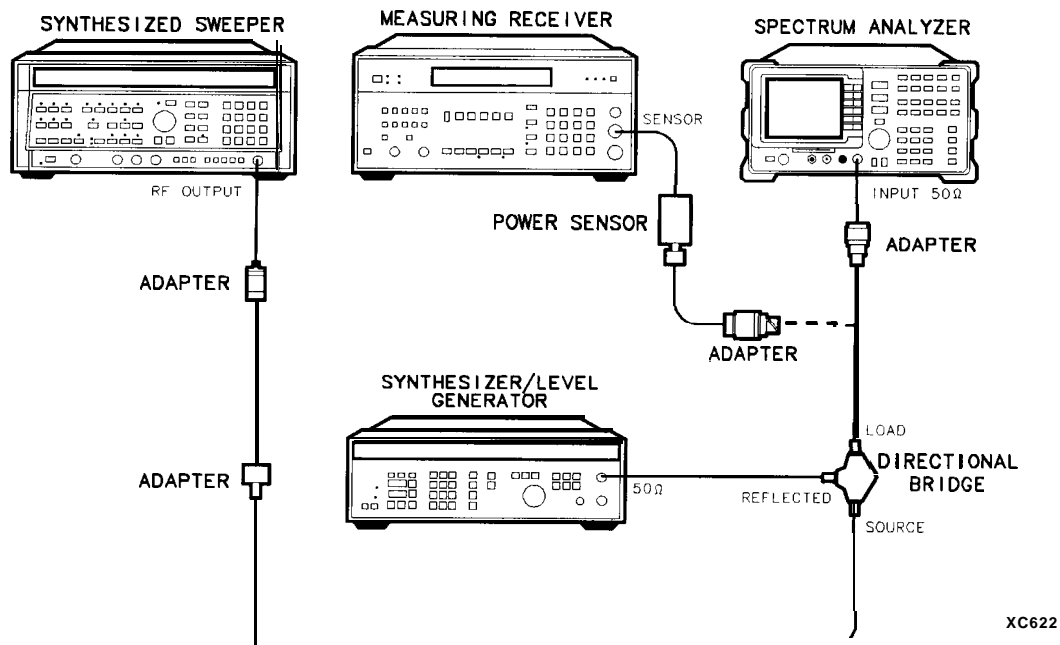

Figure 2-60. Gain Compression **Test Setup**
2. Connect the equipment as shown in Figure 2-60, with the load of the directional bridge connected to the power sensor.
15. Connect the equipment as shown in Figure 2-60.